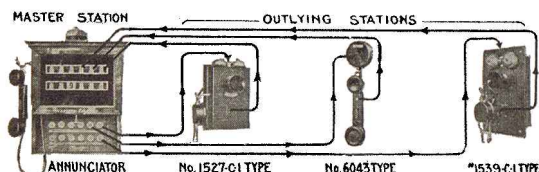

Fig. 1
**Fig. 1. Two-way Ringing** (Annunciator Equipped with Push Buttons, One for Each Outlying Station) enabling the outlying stations to ring the master station and the master station to ring the outlying stations individually.